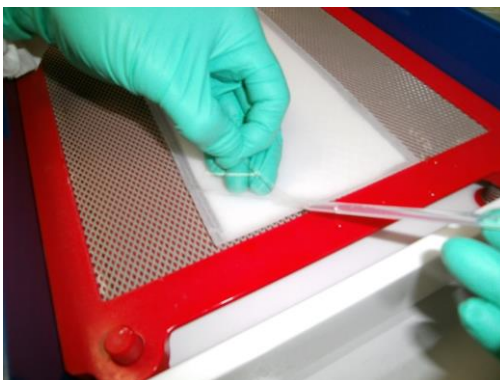

Fig. 19
- Pipet transfer buffer between film and gel (Fig. 19).